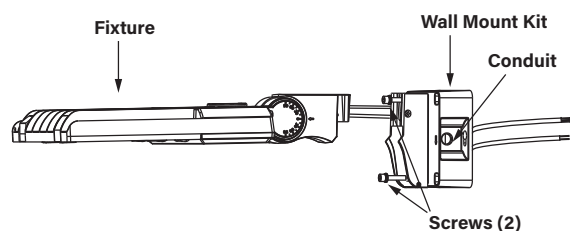

Figure 19
4. Secure the fixture to the wall mount kit with (2) screws (provided). (Figure 19)